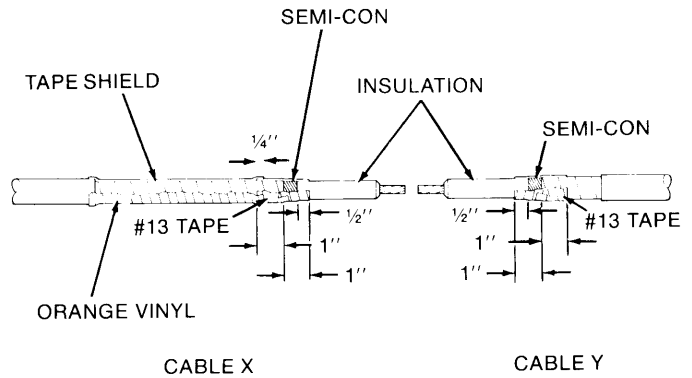

Figure 2
7. Apply two highly elongated half-lapped layers of Scotch Brand 13 Semi-Conductive Tape starting 1" on cable metallic shield and extending 1/2" onto cable insulation. Leave a smooth leading edge and tape back to starting position (Figure 2).
8. On cable "X" apply one half-lapped layer (adhesive side out) orange vinyl tape (supplied in kit) over metallic shield beginning approximately 1/4" on previously applied #13 Tape and ending over cable jacket. (Figure 2)